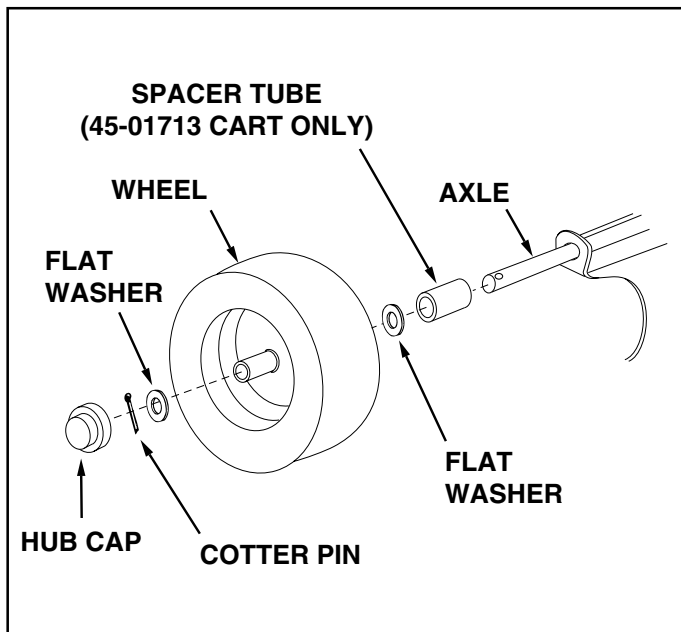

FIGURE 12
17. Assemble a spacer tube (45-01713 cart only), a flat washer, a wheel with the valve stem facing out, and another flat washer onto the axle as shown in figure 12. Secure with a cotter pin and spread the ends so that a hub cap can fit over the cotter pin. Assemble the hub cap by pressing it onto the flat washer. Repeat on other end of axle.